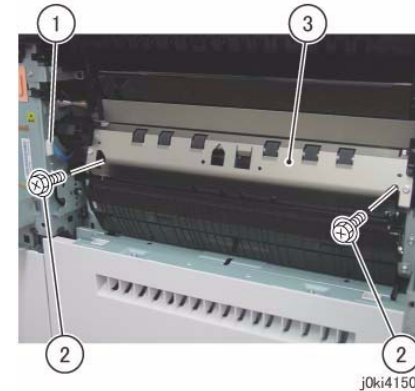

Figure 1 Remove the Registration Transport Assembly
5. Remove the Registration Transport Assembly. (Figure 1)
Make sure you secure the screw (Figure 1) at the rear side of the Registration Transport Assembly. If it is not secured, it may cause the DUP MOT DRIVE of the MD PWB to be damaged.